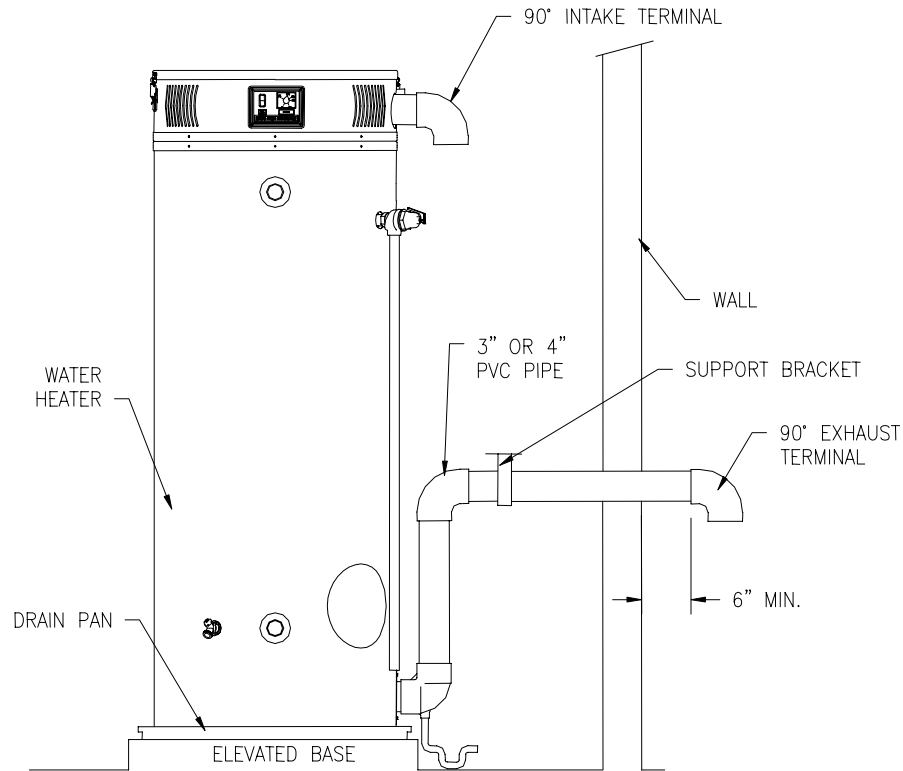

Figure 16. Typical Horizontal Power Vent System
2. Use the proper PVC cement or sealant to secure the 90° exhaust vent terminal provided with the water heater to the plastic pipes. The distance between the back edge of the 90° exhaust vent terminal and the exterior wall (see Figure 16) must be 6 inches (13.0 cm). Use the proper cement and assembly procedures to secure the vent connector joints between the terminal and the blower outlet. Provide support brackets for every 3 feet (1.0 m) of horizontal vent.